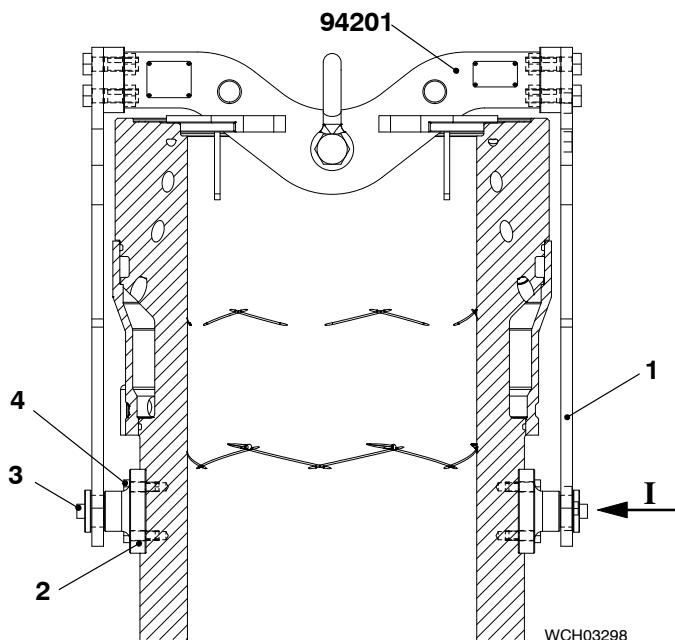

Fig. 2
- 1) Put the two flange couplings (2, Fig. 2) in position on the cylinder liner.
- 2) Apply Molyslip Copaslip paste to the threads of the screws (4).
- 3) In each flange coupling (2), torque the four screws (4) 140 Nm.
- 5) Apply Molyslip Copaslip paste to the threads of the special screws (3).
- 6) Attach the two holders (1) to the flange couplings (2) with the special screws (3).
- 7) Torque the special screws (3) to 270 Nm.
- 1) Remove the two special screws (3, Fig. 2).
- 3) Remove the screws (4), then remove the two flanges (2).